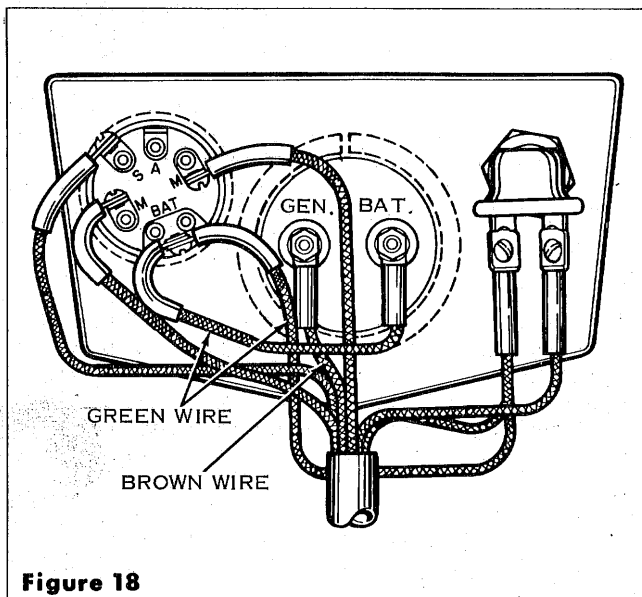

Figure 18
8. Connect the loose end of the green wire to the terminal of the switch with the single green wire (starter switch). Both terminals must be on one screw. See Figure 18.
9. Remove the insulating cover from the unused brown wire on the switch to junction box cable. Connect the wire to the vacant ammeter terminal post (GEN). See Figure 18.